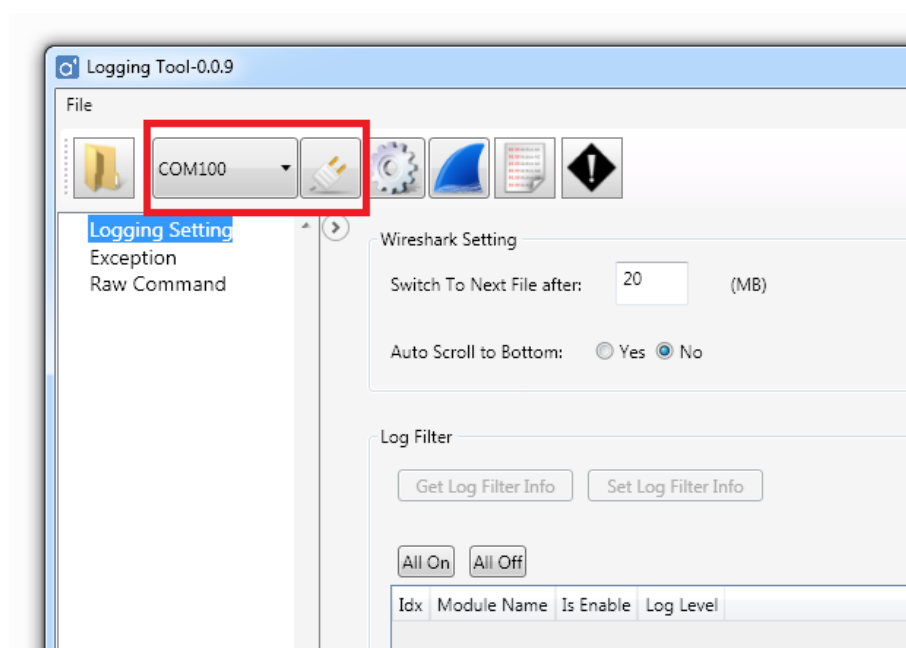

Figure 19. Serial Port Connect button
- 4) Select your serial port on the dropdown list and click the **Connect** button as shown in Figure 19.